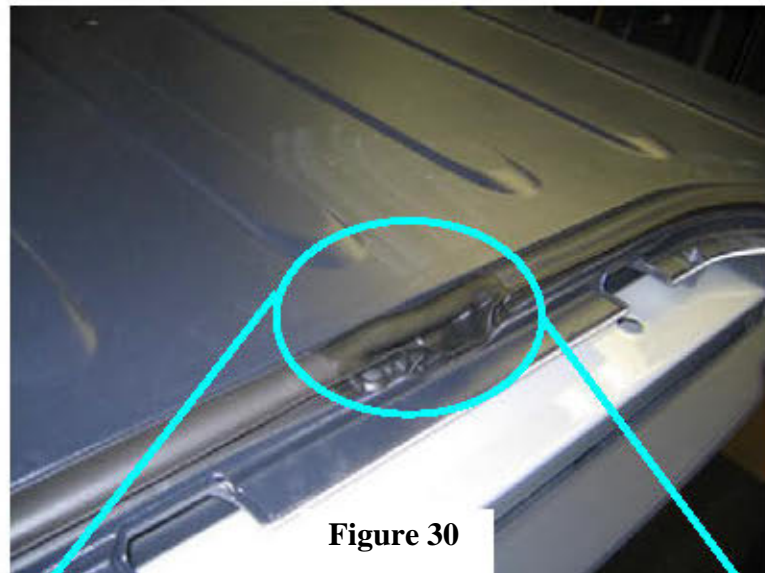

Figure 30
- Inspect for any gaps between the seal and hard top (Figure 30,31)